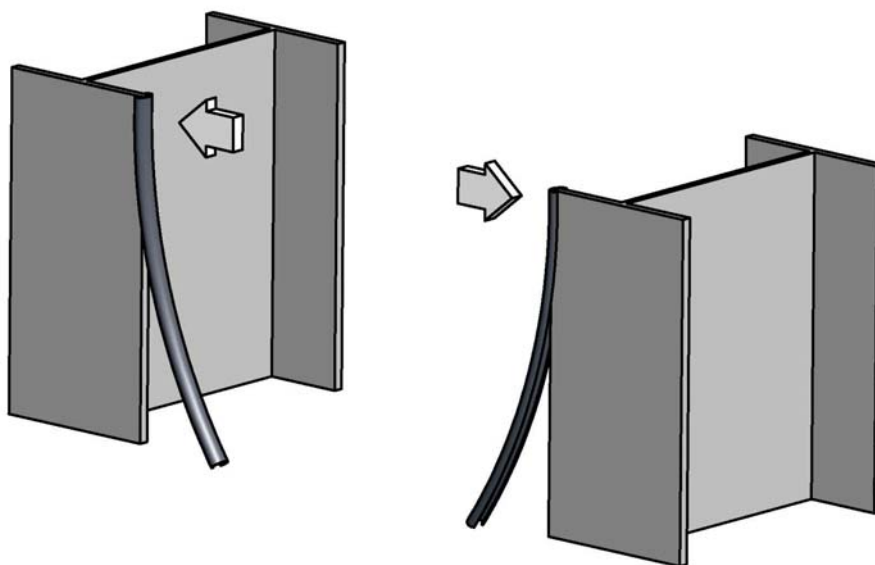

Figure 4, Plastic Edge Protector
2. Fix plastic protectors (B1) over the inner edges of the pillars (Figure 4). If you are unable to use these protectors due to the building design then it is important sharp objects and rough surfaces are covered with PVC strip or similar.